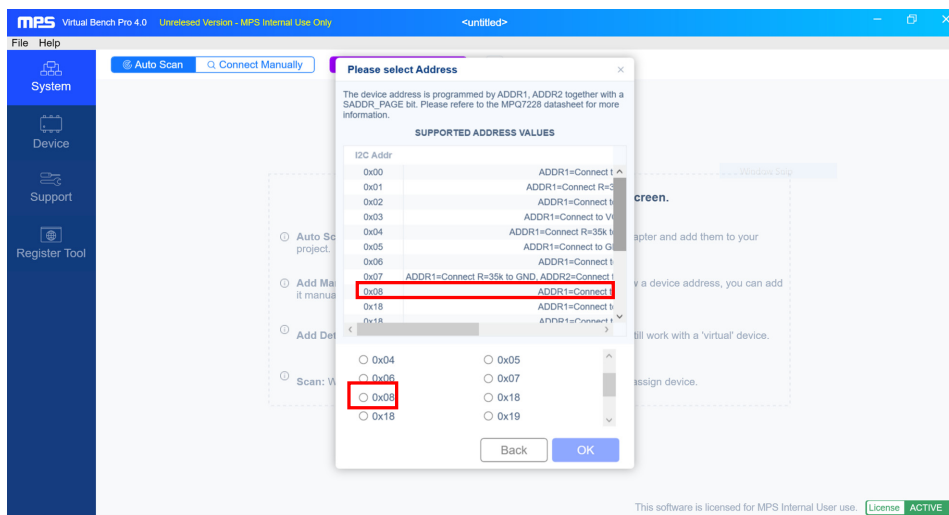

Figure 5: Select the Address in Virtual Bench
11. To find the MPQ7228, select 0x08 under Supported Address Values and then click the “OK” button (see Figure 5). Double-click on the MPQ7228 window.